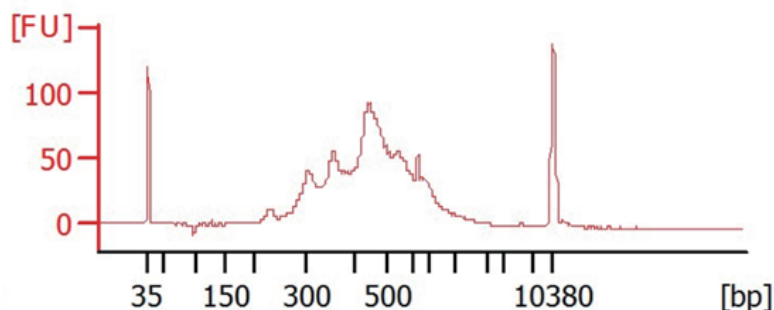

Fig.1 The fragment distribution of the library of the packages under normal conditions
- 3) Check whether the concentration and fragment distribution of the Fast PCR-FREE library are normal. Fig. 1 shows the normal fragment distribution of the Fast PCR-FREE library. The size in the picture is larger than the actual one, because the PCR-FREE adapter is a non-complete double-stranded structure, so the electrophoretic migration rate is slower.